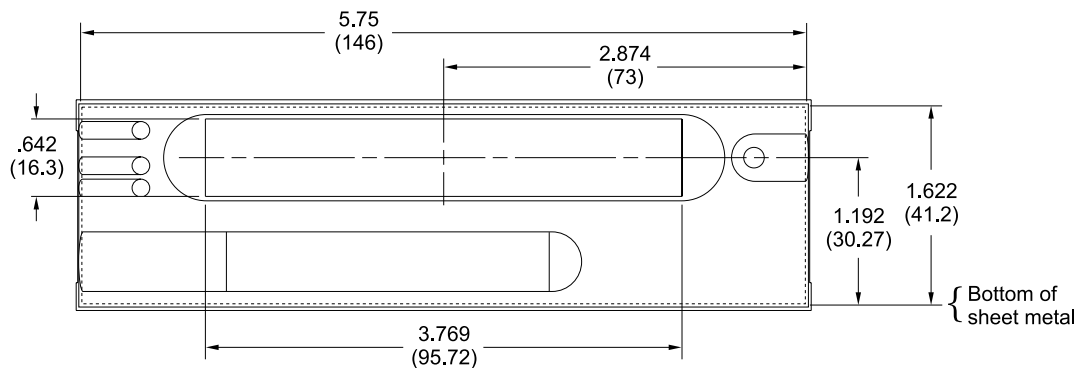

Figure 4-1 Dimensional location of the cartridge insertion opening in inches and millimeters
- The cartridge insertion opening must be located as shown in Figure 4-1.